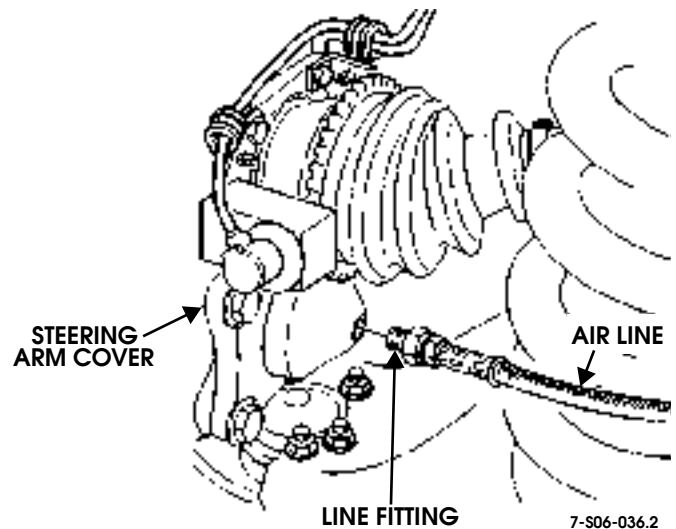

Figure 6-78: Line Connection at Steering Arm Cover
3. Remove line fitting from steering arm cover (Figure 6-78).
2. Apply sealant to line fitting and install in steering arm cover (Figure 6-78).